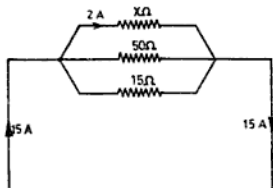

Fig. E 3.11
**EXAMPLE 3.11** In the parallel circuit shown in Fig. E 3.11, the current through the resistor  $x$  is  $2 \text{ A}$  and the total current taken from the supply mains is  $15 \text{ A}$ . Find (i) the value of the unknown resistance  $x$ , (ii) the PD across the circuit, (iii) the current in each resistance, and (iv) the total resistance of the circuit.